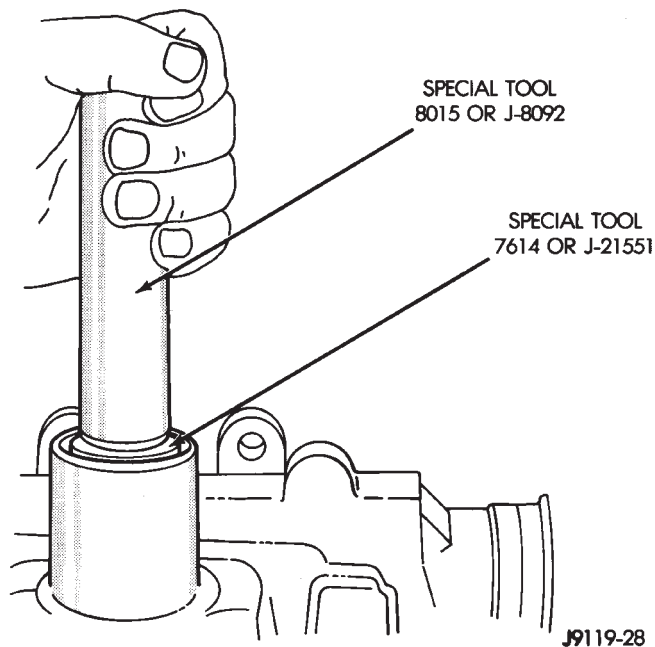

Fig. 37 Pitman Shaft Bearing Installation
- (1) Install needle bearing into housing (Fig. 37).